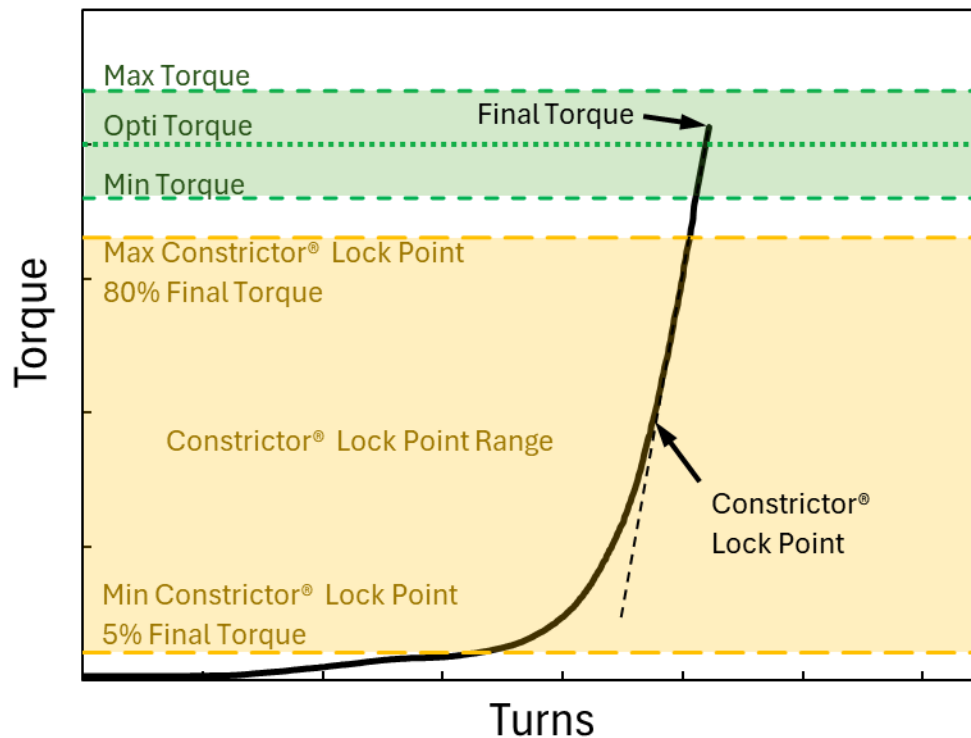

Figure 5 – Anaconda™ SP Torque-Turn Signature
- Verify the make-up result against Figure 5.
- Figure 5 shows an example of an acceptable make-up signature.